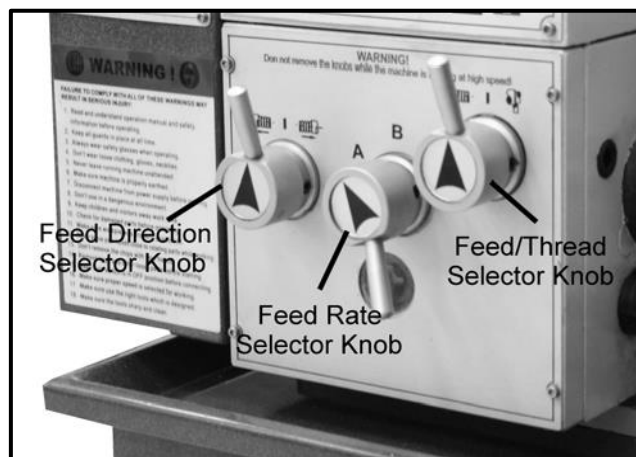

Figure-12 Gearbox controls
**FEED RATE SELECTOR KNOB:** Use the feed rate selector knob to set the desired feed or thread rates. See figure-12.
**FEED THREAD SELECTOR KNOB:** For thread selecting, shift the knob to the left and for feed selecting, shift the knob to the right. See figure-12.